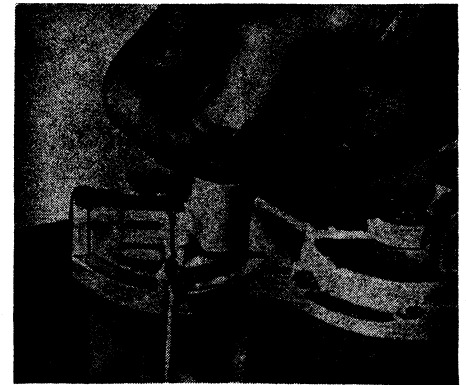

Fig. 15 Series B. Installing inlet valve
- Turn the top cover right side up. Put a drop of light oil on a new inlet valve and place the valve in the well or recess over the bowl, Fig. 15. Be sure the valve lies flat. Install a new outlet valve in its recess in the same manner.